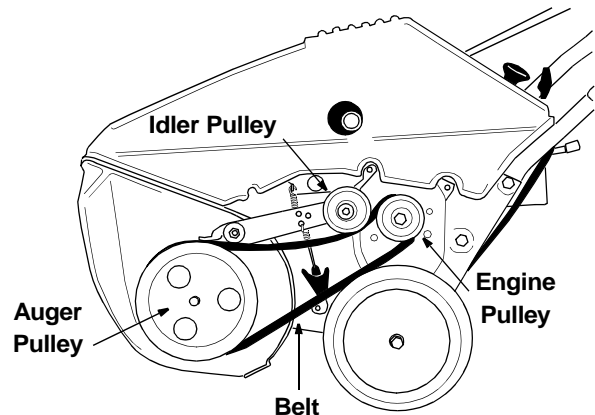

Figure 17
- Reassemble new belt. See Figure 17.